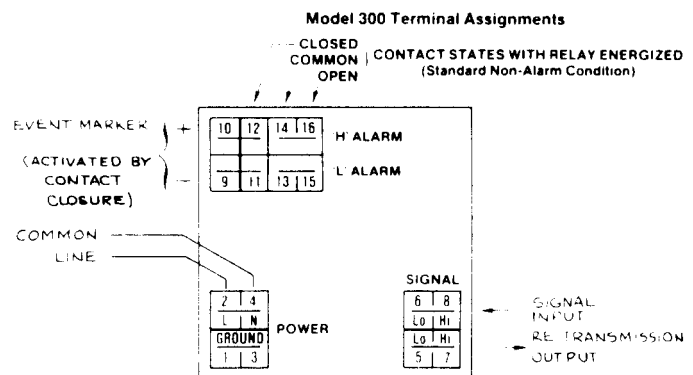

Figure 2-2 Rear terminal assignments
- (4) Remove the insulating cover from the power terminals, Figure 2-2, and connect wiring for the ac supply: